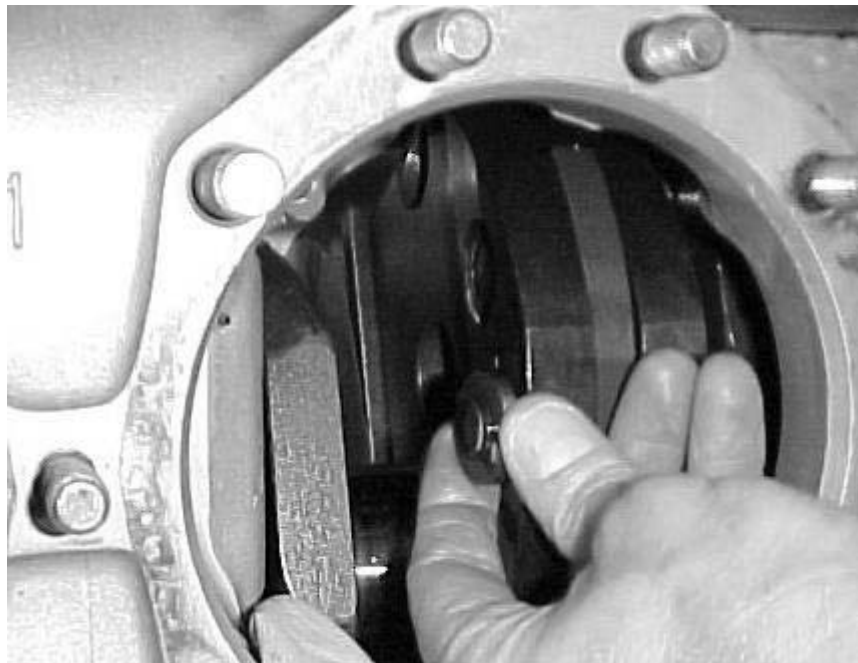

FIGURE 2
10. Position the crankshaft so that the rearward (aft) snap rings and plates of each counterweight can be removed. Using a pair of snap ring pliers, remove and discard the two snap rings. Remove the two retaining plates. See Figure 2. Do not discard retaining plates, they will be reinstalled in their original location after completing the inspection. Place masking tape or an equivalent adhesive tape over the counterweight pin bores so that the counterweight pins will not exit the counterweight as the crankshaft is rotated during the visual and ultrasonic inspection. Document the location of the removed counterweight retaining plates. They must be reinstalled in the location from which they were removed.